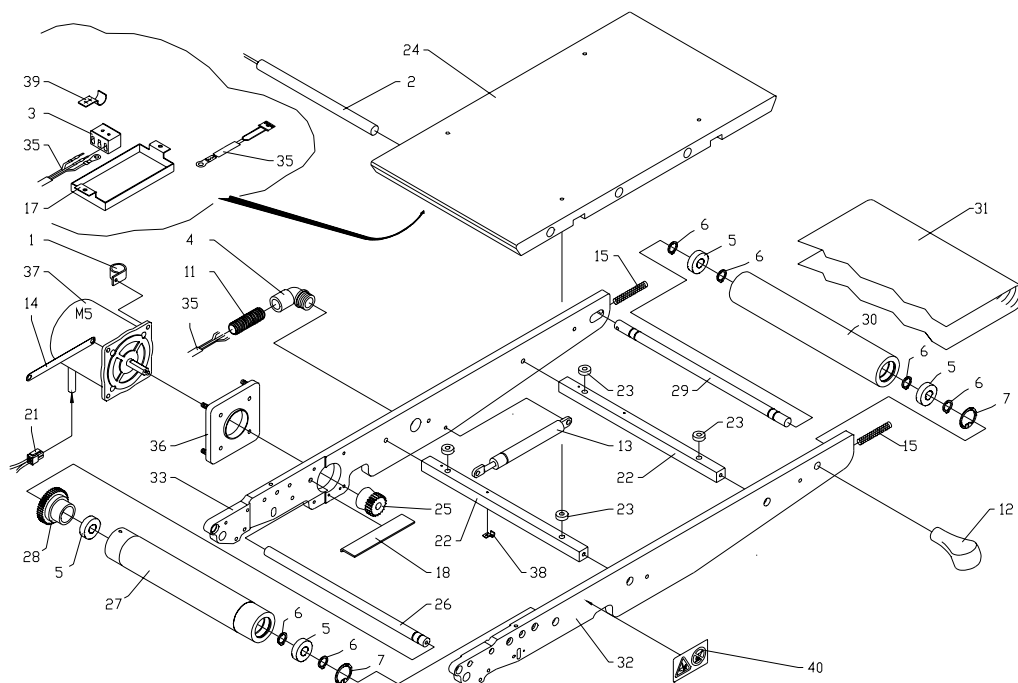

Figure 8-17
4. Remove the snap rings for the air springs (item 13 in Figure 8-17) on the pins and disconnect the ends of the air springs from the pins.
7. Loosen the setscrew for the spring tension of the film pressure roller on the front sealing belt side frame (item 32 in Figure 8-17).
10. Remove the sealing belt (item 31 in Figure 8-17).
11. Remove the four bolts securing the sealing plate (item 24 in Figure 8-17).
13. Disconnect the heating element wires from the terminal (item 3 in Figure 8-17), and slide the heating elements (item 2 in Figure 8-17) out of the sealing plate.
10. Remove and replace the sealing belt (item 31 in Figure 8-17).
11. Remove the cover (item 17 in Figure 8-17) over the terminal on the bottom of the sealing plate.
12. Remove the bolt holding the thermistor and replace the thermistor (item 35 in Figure 8-17).
6. Remove the four nuts on the motor isolation mount (item 36 in Figure 8-17) and remove the motor.
7. Loosen the setscrews on the motor drive gear (item 25 in Figure 8-17) and remove it.